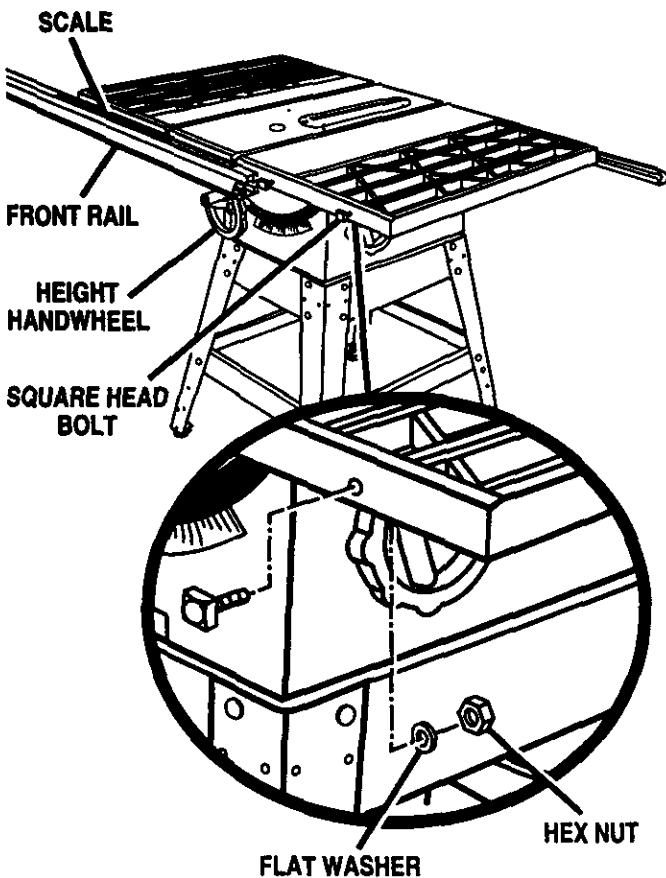

Fig. 15
See Figures 15, 16, and 17.
- Loosely attach a flat washer and a hex nut to each bolt. See Figure 15.